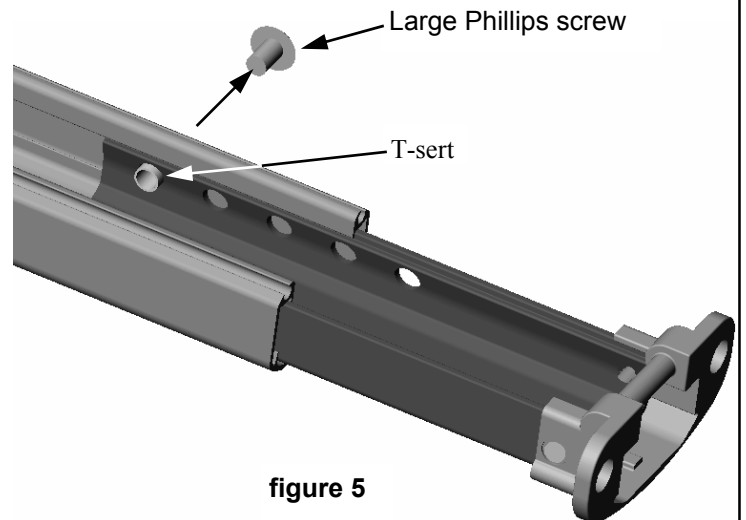

figure 5
A. When the awning assembly is installed on the RV it should closely match **figure 4** showing the awning assembly viewed from the motorized and non-motorized sides. Start by removing the large Phillips Screw assembly on the side of the motorized arm assembly and slide the adjustable leg out of the arm assembly (see **figure 5**).